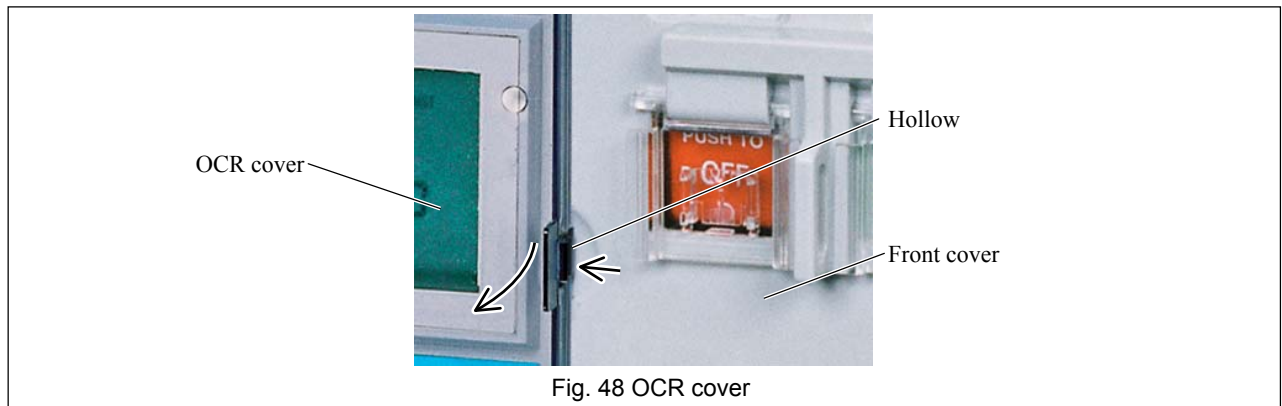

Fig. 48 OCR cover
- 1) Push the right end of the OCR cover to the left at the hollow on the front cover to unlatch and open the OCR cover. See Fig. 48.